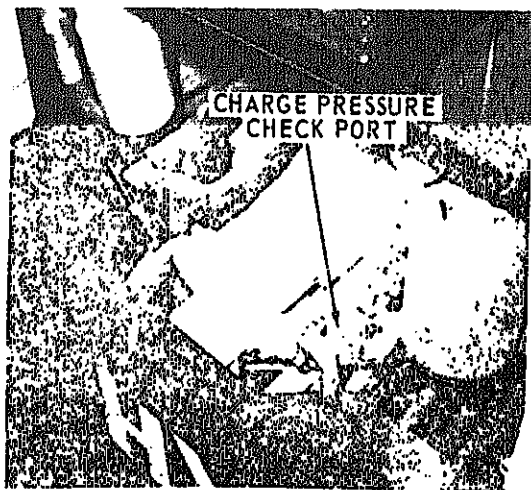
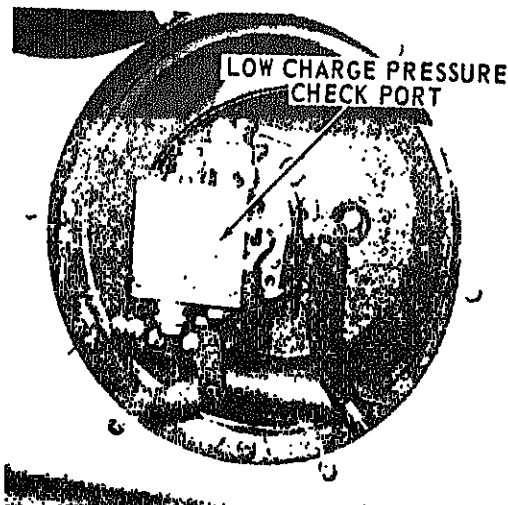

FIGURE 7-101.
FIGURE 7-102.
b. After the transmission has been installed, remove the threaded plug from the top of the main pump housing (see figure 7-101). Install a 600 PSI (42.19 kg/cm²) pressure gauge with a short section of hose. The port is 7/16 x 20 straight thread with o-ring. Low charge pressure may be checked at the motor case port as shown in figure 7-102.